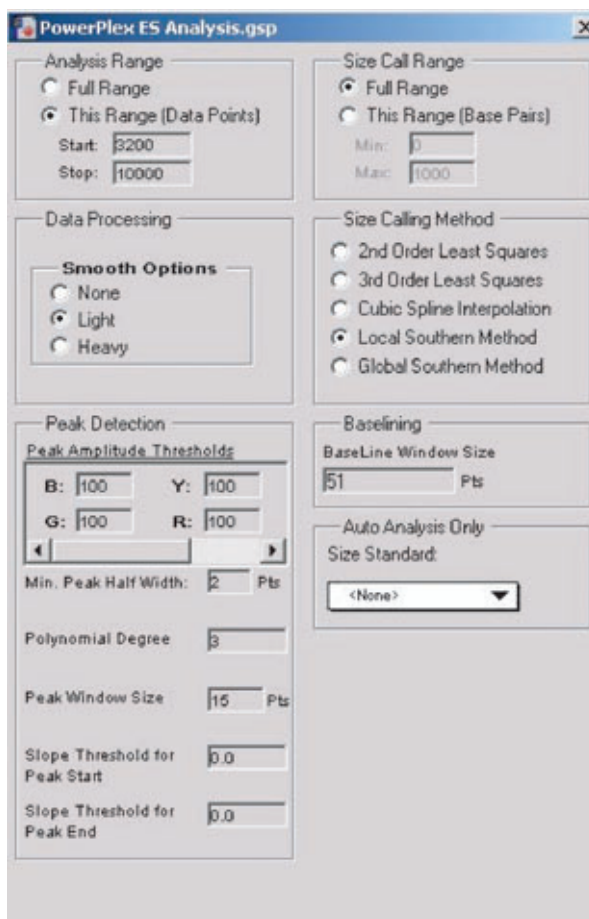

Figure 8. The Analysis Parameters window. The start point of the analysis range, which will vary, is defined in Section 6.D, Step 2.
3. The recommended analysis parameters are shown in Figure 8.